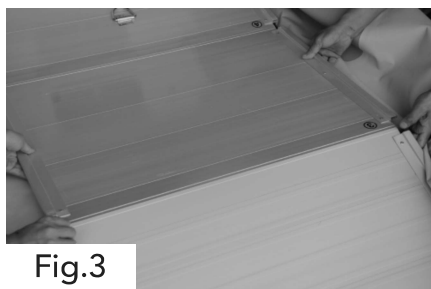

Fig.3
c. Lift the middle section a bit and create a roof-like structure.(Fig.3)